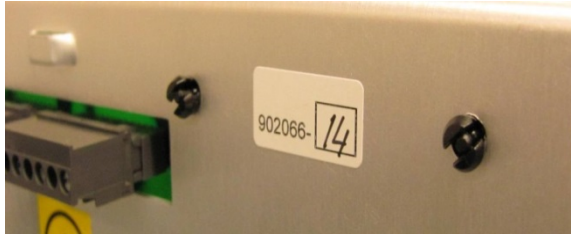

Figure 2-14A: DSS subassembly and tab number location
This section applies only to units fitted with a Dual-Speed Starter (DSS). Different settings apply depending on the DSS board number, and subassembly/tab number installed. Check the subassembly number and tab number (as shown in Figure 2-14A), and the board number (printed on the board) installed in your generator and follow the steps outlined in this section to program the DSS.
2. If you are making the conversion as per the previous step, use an indelible marker to change the part number of the dual-speed starter assembly (901297-XX to 901298-XX, or vice-versa). The dual-speed starter part number is printed on the opposite side of the board assembly, at the back of the mounting plate (see Figure 2-14A). Keeping the dual-speed starter part number current will maintain configuration control of the product.
4. To determine if the dual-speed starter contained within your generator is compatible with the desired tube as selected in step 1, note the part number of the dual-speed starter in your generator. This is printed on the back of the mounting plate, opposite the board assembly (see Figure 2-14A). This part number must appear in the last column of Table 2 in the *X-ray Tube Stator Compatibility Tables* supplement (part number: 746026-00).
1. Set SW3, switches 1 to 7 according to the subassembly tab number labeled on the back of the DSS panel (see Figure 2-14A).